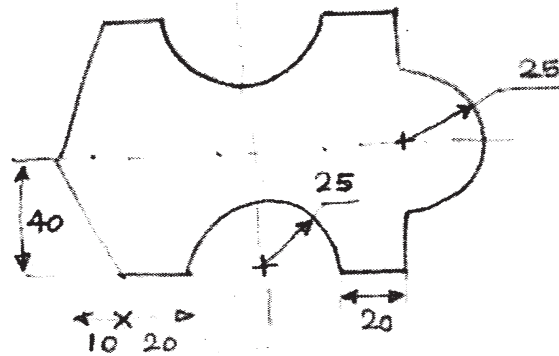

Fig.2.Q - No.4(b)
- b) Write a complete APT part program to generate end profile for the component shown in Fig 2. Use post processor call statement MACHINE MILL, Draw the tool path and take raw material stainless steel blank of 160 mm x 100 mm, spindle speed 400 RPM and feed 0.25 mm/rev. all dimensions are in mm